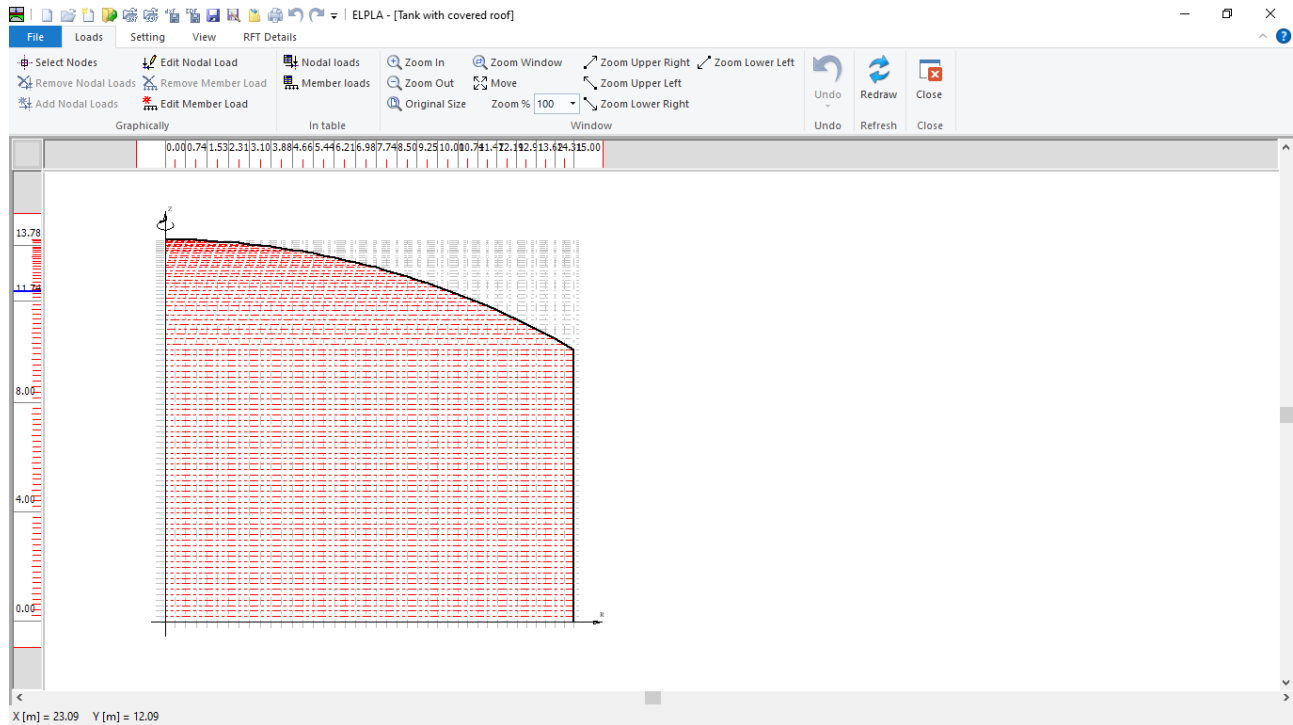

Figure 5.21 "Loads" Window
To define the loads, choose "Loads" command from "Data" Tab. The following window in Figure 5.21 appears. In *ELPLA*, entering loads may be carried out either numerically (in a table) or graphically using the commands of "Loads" Tab in Figure 5.21. In this example, there is not applied load, as the vertical load has been already defined by the unit weight of the tank.
- Choose "Save" command from "File" menu in Figure 5.21 to save the load data
- Choose "Close" command from "File" menu in Figure 5.21 to close the "Loads" window and return to *ELPLA* main window